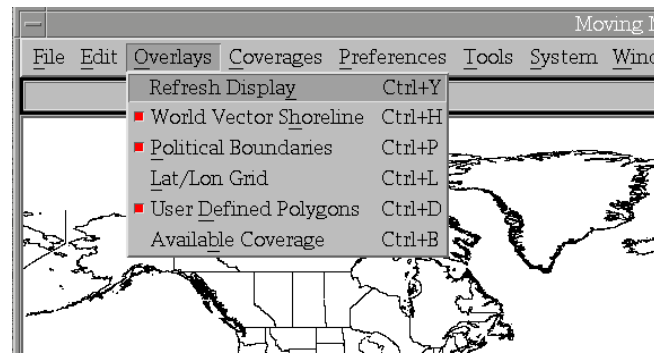

Fig. 13 – Overlays menu
- d. From the main menu, click on *Overlays*, then *Available Coverage* (Fig. 13).
- b. From the main menu, click on *Overlays*, then *Available Coverage* (Fig. 13).